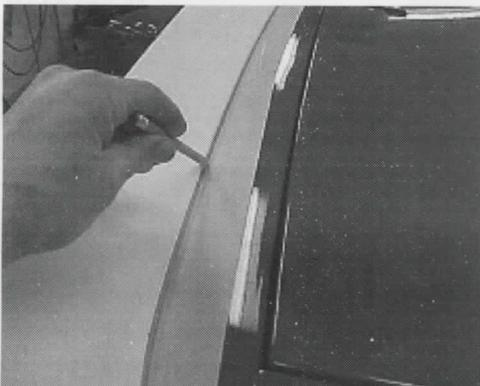

FIG. 4A
4. PLACE SPOILER BACK ON CAR AND DRAW A LINE ONTO MASKING TAPE TRACING ALONG FRONT EDGE OF SPOILER FROM TIP TO TIP (SEE FIG. 4A). MAKE MARKS ON MASKING TAPE AT FRONT EDGE OF SPOILER CORRESPONDING WITH MARKS MADE IN STEP 3 (SEE FIG. 4B).